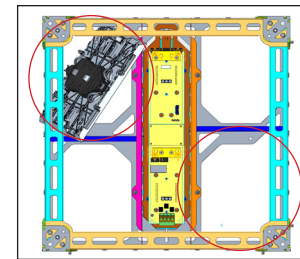

Figure 4: Pull Module through Opening
4. Rotate the module and pull it through one of the two openings in the panel. Refer to **Figure 4**.